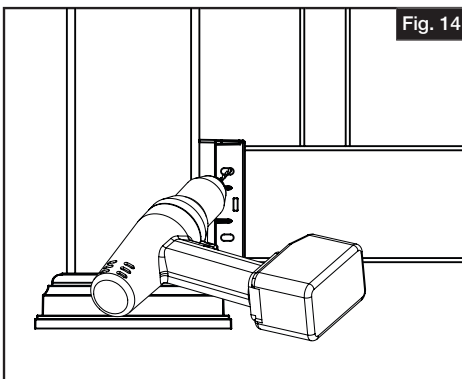

Fig. 14
- a. For each installed bracket, pre-drill in the center of each elongated hole with a $\frac{1}{8}$ " drill bit (Fig. 14).